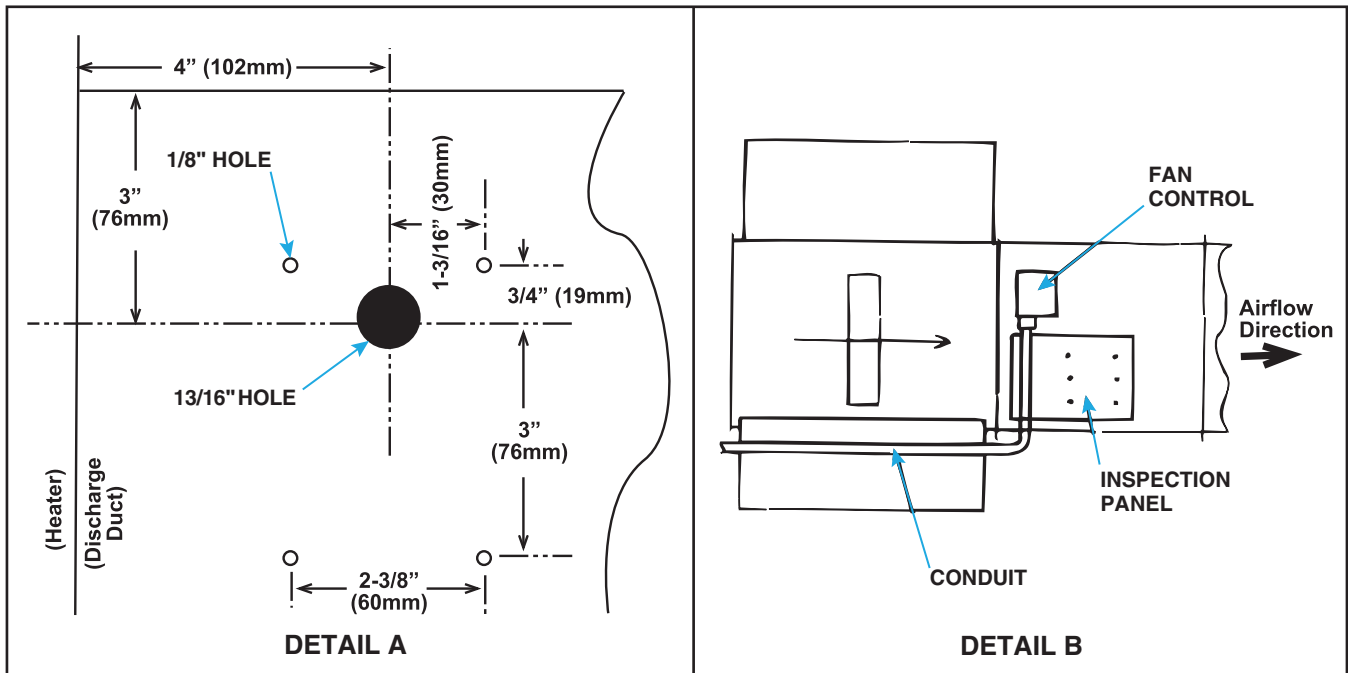

Figure 28. Fan Control Installation
- Install the fan control as follows (see Figure 28, DETAIL A):
- See Figure 28, DETAIL B for the installation of option CQ1 fan control kit (PN 57960):